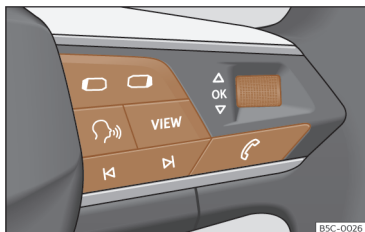

Fig. 60 Right side of the multifunction steering wheel: buttons for using the instrument cluster's menus and information displays (depending on versions).
As long as a priority 1» page 71 warning is active, it will not be possible to access any menu. Some warnings can be confirmed and hidden with the button **OK** of the multifunction steering wheel» **Fig. 60**.
- If a message or vehicle symbol is displayed, press the button **OK**» **Fig. 60**; if necessary, several times.
- To change menus, use buttons  or  » **Fig. 60**.
- To open the menu or the information displayed, press the button **OK**» **Fig. 60** or wait
- In the menu displayed, turn the right thumbwheel of the multifunction steering wheel» **Fig. 60** until the desired option of the menu is highlighted. The option appears framed.
- Press the button **OK**» **Fig. 60** to make the required modifications. A mark indicates that the system or function is activated.
Press the button  or  » **Fig. 60**.